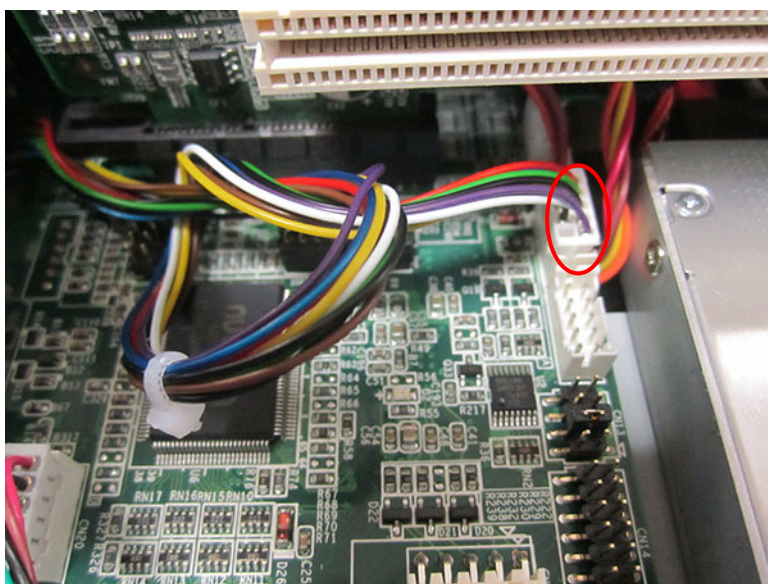

Figure 3.7
- b. Connect the cable to COM5. (See Fig 3.7)